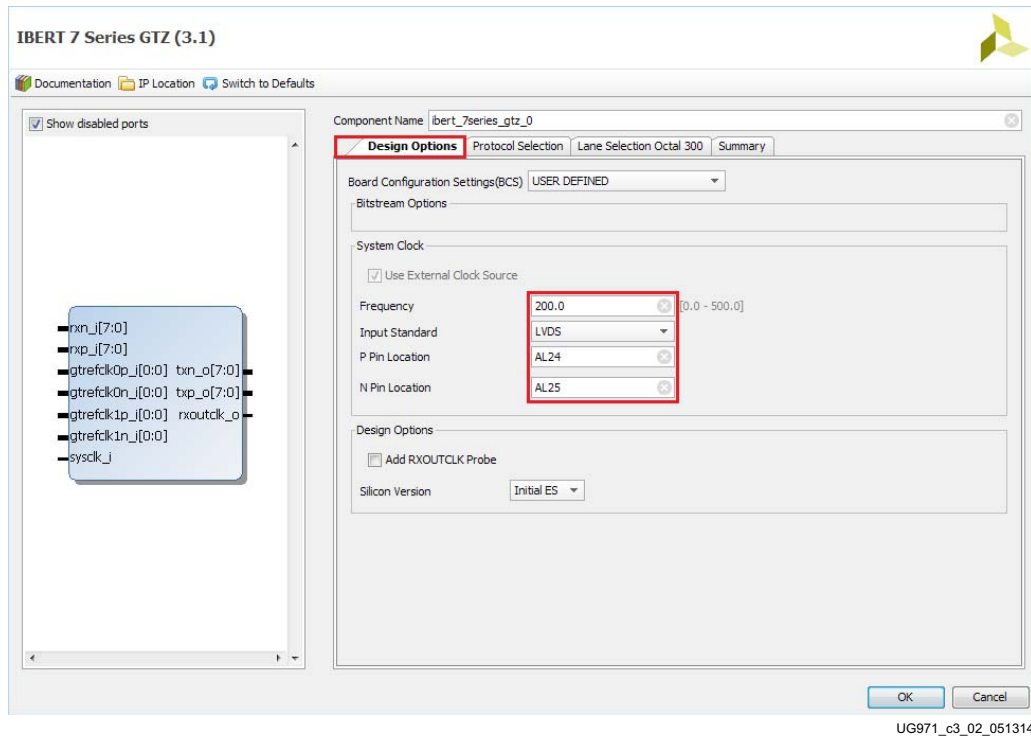

Figure 3-2: Customize IP - Design Options
2. A Customize IP window opens. In the Design Options tab, set the system clock frequency to **200 MHz**, the input Standard to **LVDS**, the P and N Pin location to **AL24** and **AL25**, respectively (Figure 3-2).